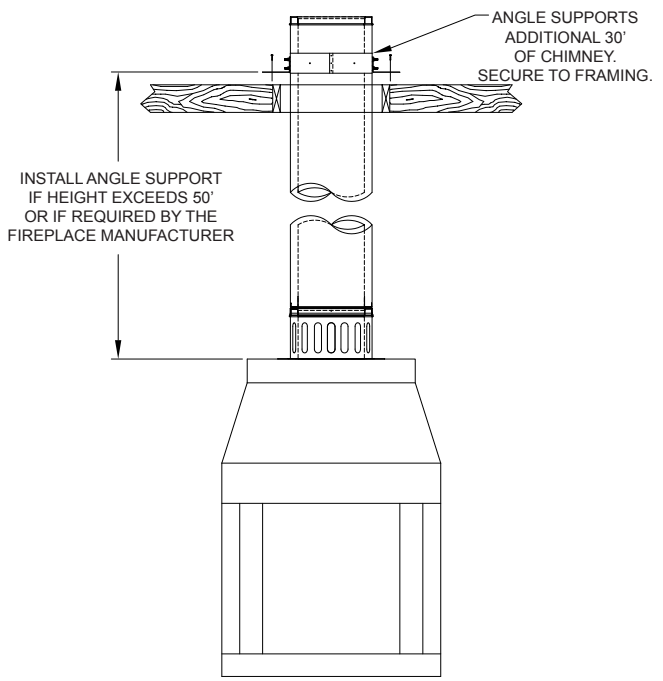
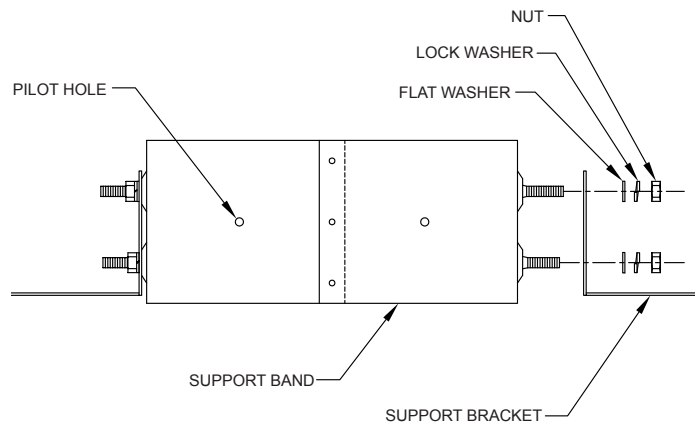
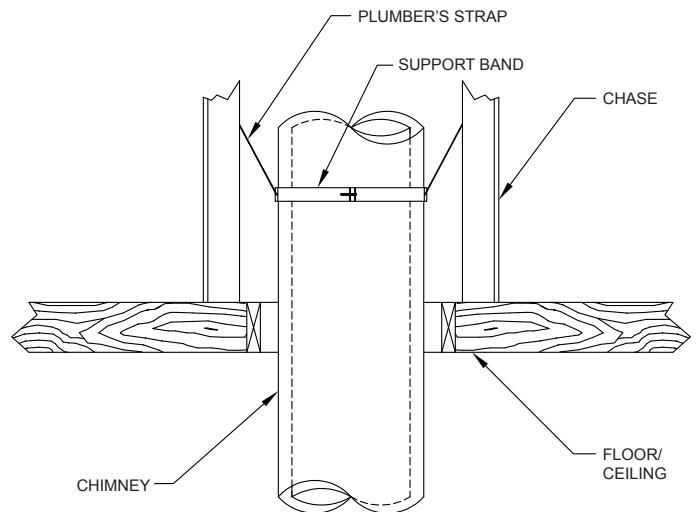

FIG. 5
FIG. 6
FIG. 7
Angle Support and Support Band: Install an Angle Support if total chimney height is greater than 50 feet, or if the fireplace manufacturer requires it. If additional support is needed, install one or more Angle Supports which will support 30 feet of chimney. See FIG. 5. Slide the Angle Support around the chimney and align over framed opening. Secure to casing with (4) sheet metal screws and assemble brackets per FIG. 6. Nail the brackets to the framing using a minimum of (2) nails or screws per bracket. A Support Band may be required by some fireplace manufacturers to keep the chimney vertical and help maintain clearances to combustibles within a chase. Clamp the Support Band to the pipe using the nut and bolt provided and secure legs to nearby framing using plumbers strap or guy wires. See FIG. 7. The Support Band does not support the weight of the chimney, it is only used to keep the chimney centered within a chase.